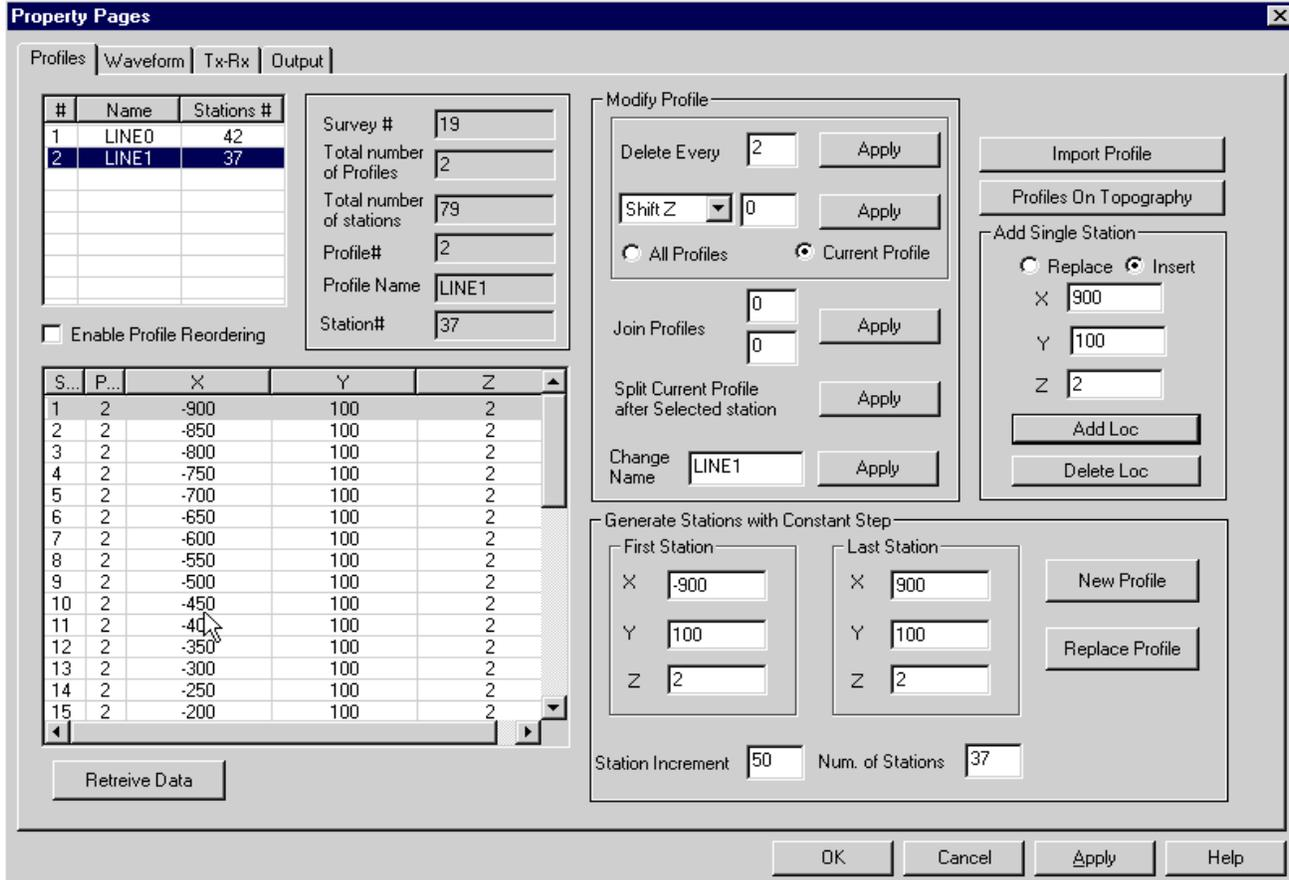

Fig. 4
- Select the profile you want to change the name of in the *List of Profiles* (Fig. 4)
- Select the profile you want to replace in the *List of Profiles* (Fig. 4)
- Click **Import Profile** in the top right-hand corner of the **Profiles** tab, Fig. 4
Your ASCII profile will be added to the *List of Profiles* (Fig. 4). If necessary, change its name as described above.
The profile data from the file will be imported into your **Profiles** tab, Fig. 4, automatically.